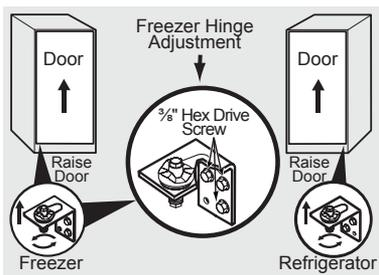

Figure 2
The doors may also be adjusted side to side with the slotted hinge for aligning the doors parallel to each other. Loosen the 3 screws with a $\frac{3}{8}$ " wrench. Shift the doors until parallel, and then retighten the screws securely. (See Figure 2.)
1. If the refrigerator door is lower than the freezer door, raise the refrigerator door by turning the adjustment screw clockwise using a $\frac{7}{16}$ " socket wrench. (See Figure 2.)
2. If the freezer door is lower than the refrigerator door, raise the freezer door by turning the adjustment screw clockwise using a $\frac{7}{16}$ " socket wrench. (See Figure 2.)